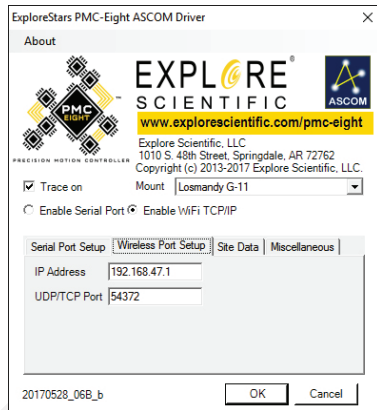

Figure 2. Explore Scientific PMC-Eight™ ASCOM configuration window.
19. Push the "Properties" button and display the PMC-Eight™ ASCOM Driver Configuration window. (Figure 2.)